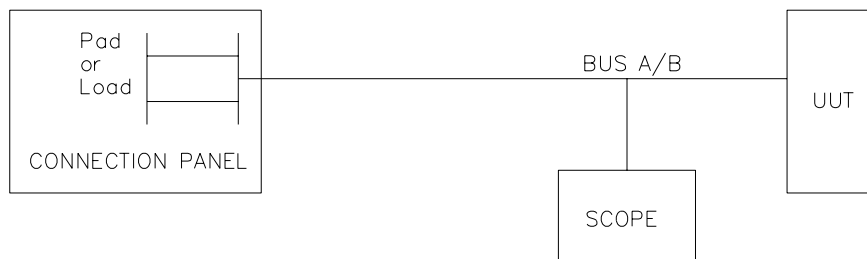

Figure 2. Power On/Off Noise Test Configuration
1. Use the test configuration in Figure 2 for transformer or direct coupled connections. Connect a cable from the UUT to the appropriate Pad or Load on the CONNECTION PANEL. Use the TC PAD or 70 OHM load for transformer coupling or the DC PAD or 35 OHM load for direct coupling. See Figure 1A of the RT Validation Test Plan for the Pad schematic.